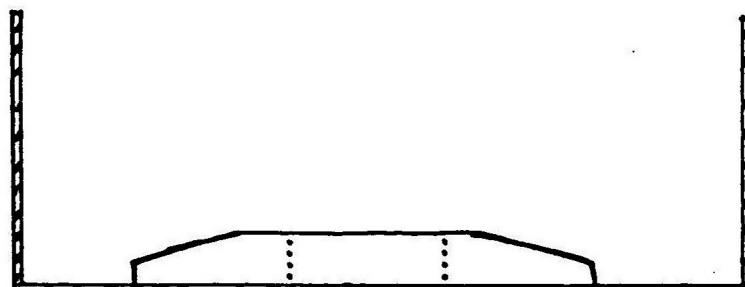

FIG 3.
- 3: Glue the door escutcheon to a baseboard and make up a box. (fig 3)